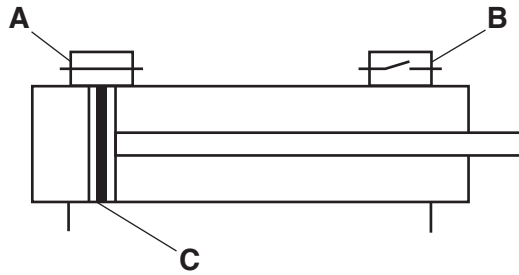

Fig. 9
The upgrading would include replacing the cylinders with the type shown in Fig. 9.
- (i) Name the component shown in Fig. 9.
- (ii) Describe how the component in Fig. 9 could be used in an automated system controlled from a microprocessor.